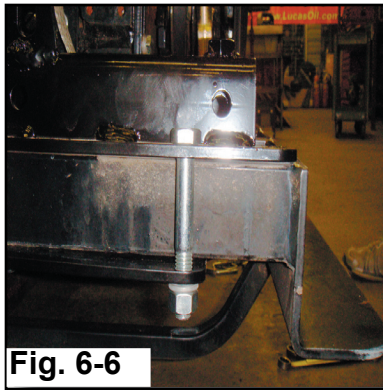

Fig. 6-6
- On the 60" diesel, the receiver bracket will be up even against the rear of the hitch (Fig. 6-6).